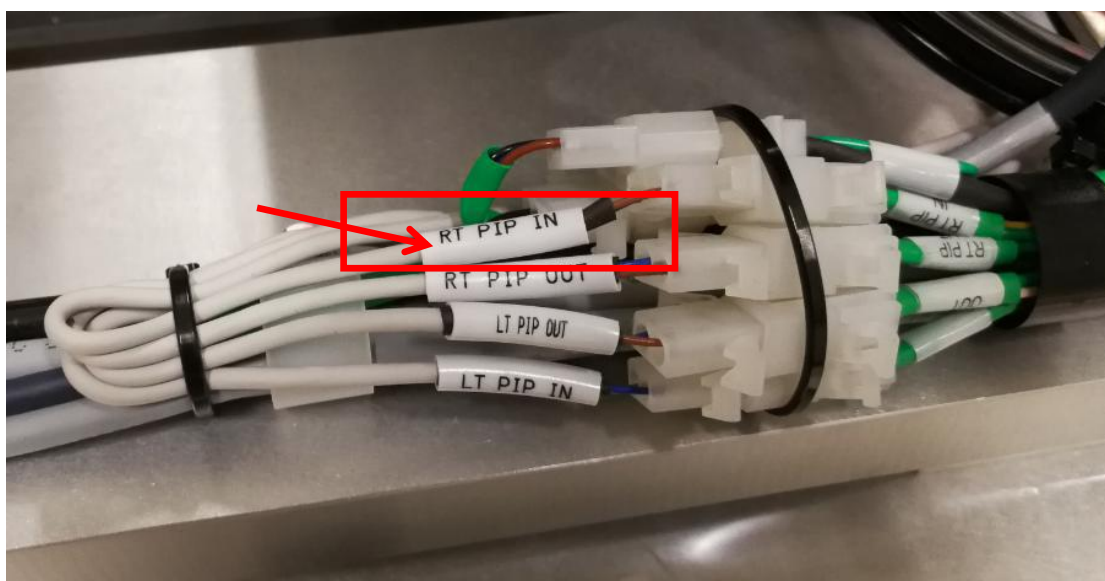

Figure 31 RT PIP In Connector Assembly
2. Plug Right PIP In Reed Sensor Cable Connector by refer to "RT PIP In" Label as shown in Figure 31 below.